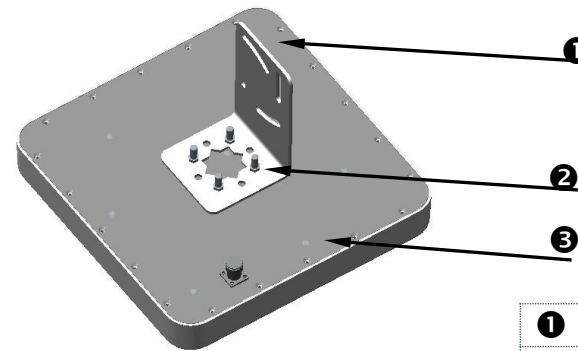

Figure 5. Vertical mounting step 1
①	L board (Bracket)
②	M6 screw, elastic washer and plain washer
③	FSC-RA01CR antenna
Step 1: Use M6 screw, elastic washer and plain washer, to fix the L board on the antenna, please see Figure 5.